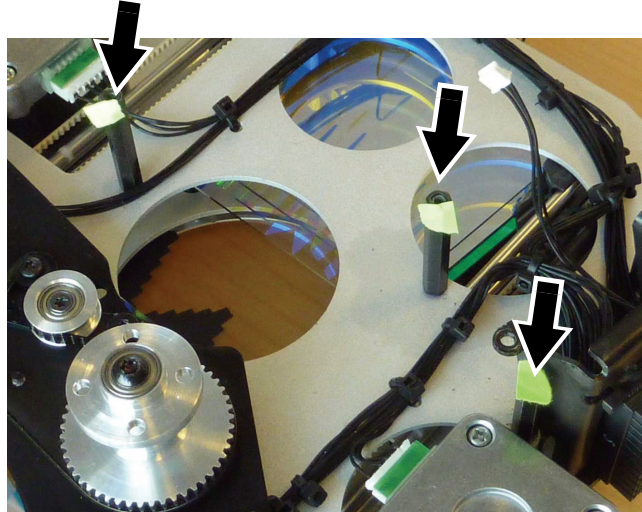

Figure 16
19. See Figure 16. Replace the three M3 x 30 pillar bolts (arrowed) on the inner aperture plate with three of the ten M3 x 20 male/female pillar bolts (P/N 08053814) supplied in the Spill Limiter Kit. Two of the M3 x 30 pillar bolts are held by Torx 10 screws. Hold each screw with a driver from the other side of the module while you remove each pillar bolt and install the new M3 x 20 pillar bolt, using the screw to fasten the new pillar in place.